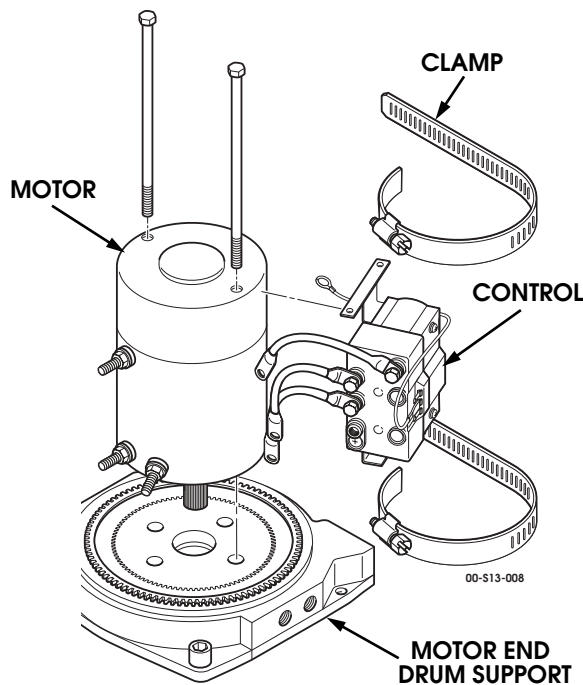

Figure 9-208: Control Unit and Motor
5. Place winch on end with motor end up (Figure 9-208).
- Secure motor to motor end drum support with two bolt assemblies. Tighten hex-head bolt to 60-70 lb-in. (7-8 N•m) (Figure 9-208).